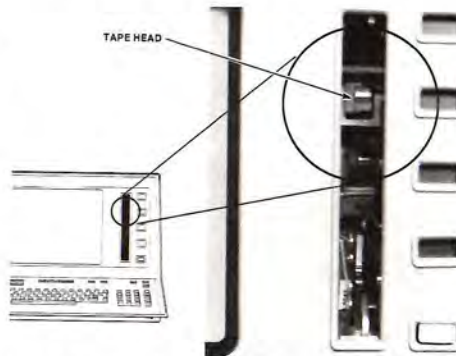

Fig. 3. Check for head wear or damage when you clean the head.
2. Inspect the tape head by shining a small light, such as a penlight, at an angle across the head surface. Look for accumulated foreign matter or damage to the head (Fig. 3).